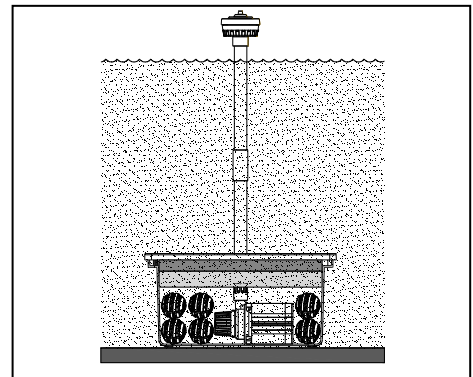

Fig. 7
7. Place the filter assembly in the water. Fig. 7